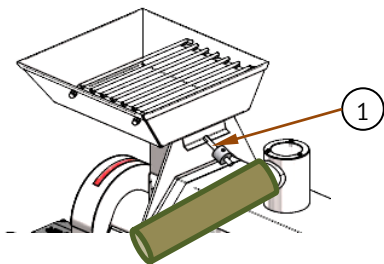

Figure 6-2: Feed inlet capacity shutter
- Pour the product into the feeding tray or hopper and adjust the capacity shutter (1) if necessary. See (Fig 6-2).